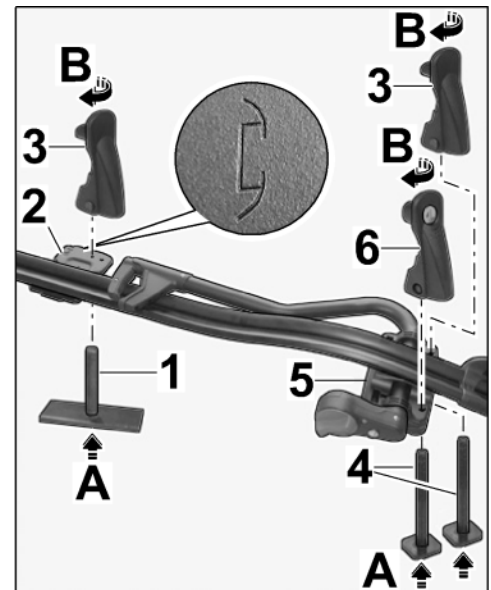

Figure 5
1.2.3 Guide T-bolt (M6 x 35) from below through the bore with the marking (⇒ *Figure 5 -inset-*) on the retainer plate (rear) (⇒ *Figure 5 -A-*).
Screw tensioning lever approx. 3 turns onto the T-bolt (M6 x 35) (⇒ *Figure 5 -B-*).
1.2.4 Guide T-bolt (M6 x 61) through the bore on the retainer plate (front ⇒ *Figure 5 -5-*) (⇒ *Figure 5 -A-*).
Screw tensioning lever with lock (⇒ *Figure 5 -6-*) approx. 3 turns onto the T-bolt (M6 x 61) (close to quick-release clamp) (⇒ *Figure 5 -B-*).
Screw the second tensioning lever approx. 3 turns onto the T-bolt (M6 x 61) (⇒ *Figure 5*).